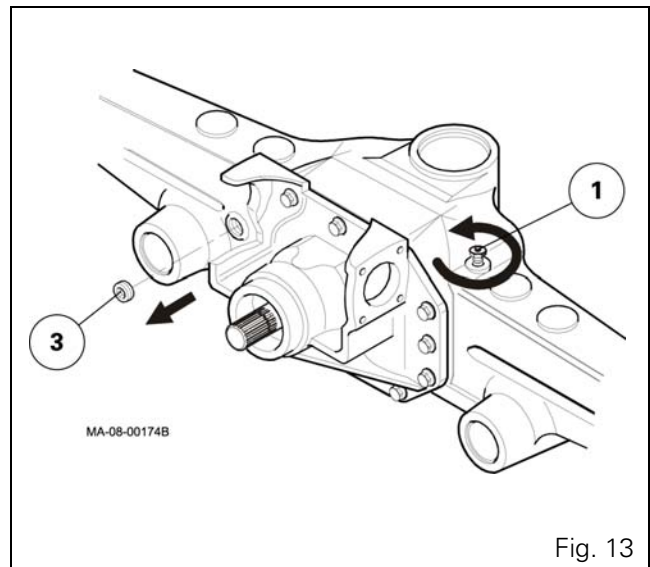

Fig. 13
2. Before unscrewing the oil filler plug (3), systematically loosen the breather (1) to release any internal residual pressure (Fig. 13).